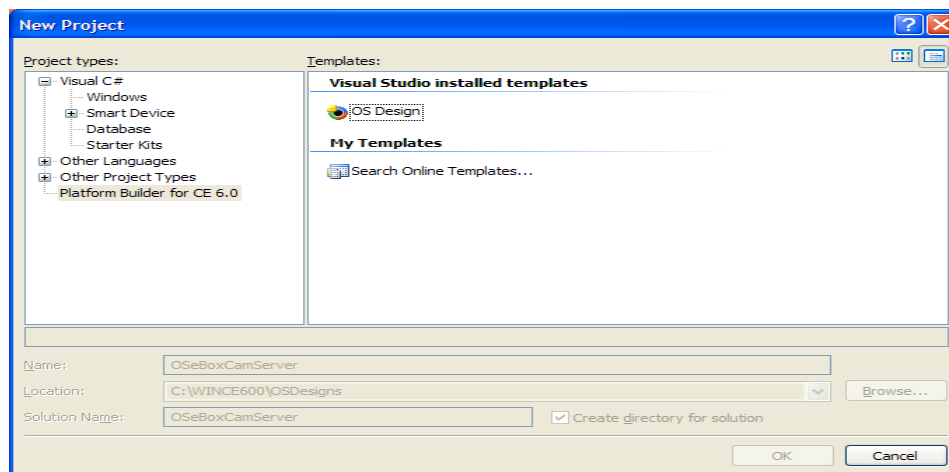

Figure 39. New VS 2005 Project Window
2. Select Platform Builder for CE 6.0, then OS Design, and then name it (your OS name). As shown in figure 39.